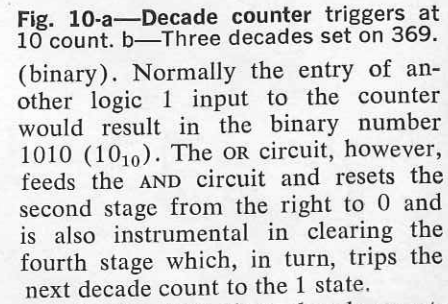

Fig. 10-a—Decade counter triggers at 10 count. b—Three decades set on 369.
The use of AND and OR gates with a counter is shown in Fig. 10-a. This combination forms a *decade counter* that will count only up to 9 and will trigger to 0 at the count of 10. Also, at the count of 10 the next stage is triggered to its logic 1 state. Decade counters are useful in data processing and each counter accumulates counts in base-10 fashion but still operates in basic binary mode. At the count of 9 the stages hold 1001
In Fig. 10-b three decade counters are shown, holding the number 369. Note the first counter (at the right) holds binary 1001 which represents 9. The next counter holds binary 0110 (6) and the left counter contains 0011 (3). If another pulse were entered in the right-most counter, it would trip to 0 and send another pulse to the center counter, changing the latter to 7. Now the count would be 370 and the system would have added an additional 1 which was entered to the existing number. R-E